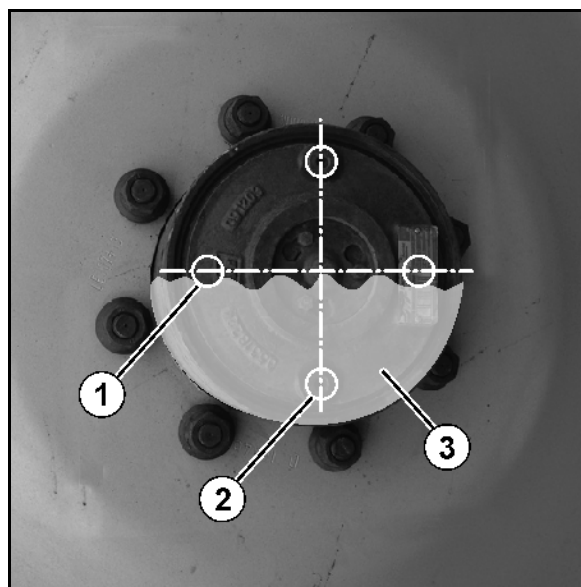

Fig. 156
4. Fill with oil to the bore (Fig. 156/3) and screw the closures back in.